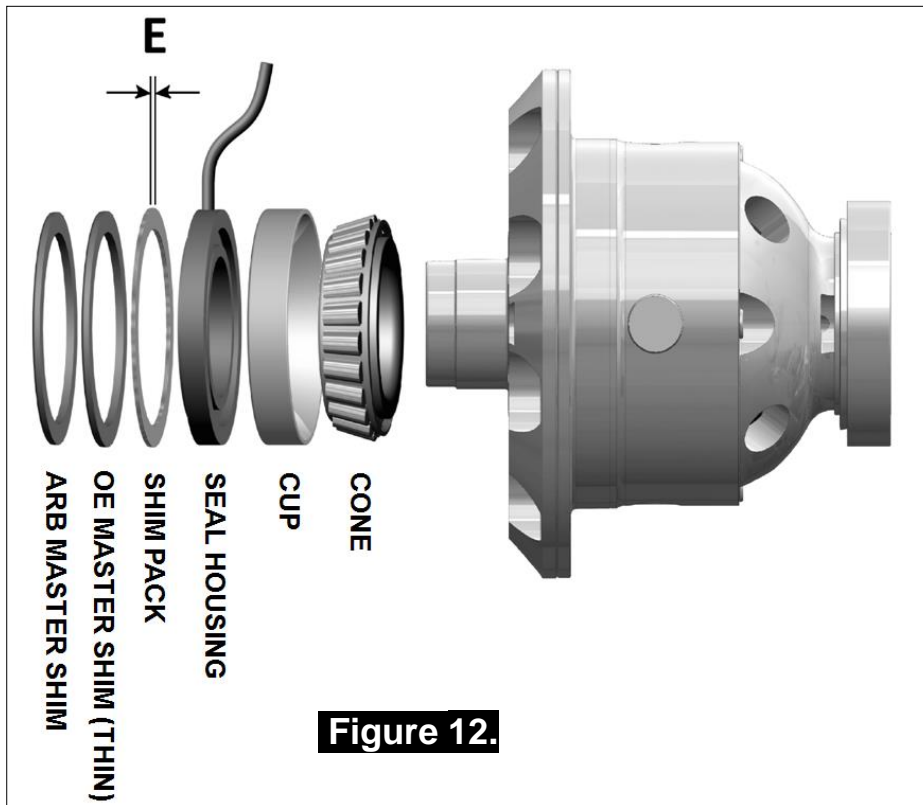

Figure 11.
- Drill through the housing square to the outside surface using an 11.2mm [7/16"] drill. (Fig.11.)